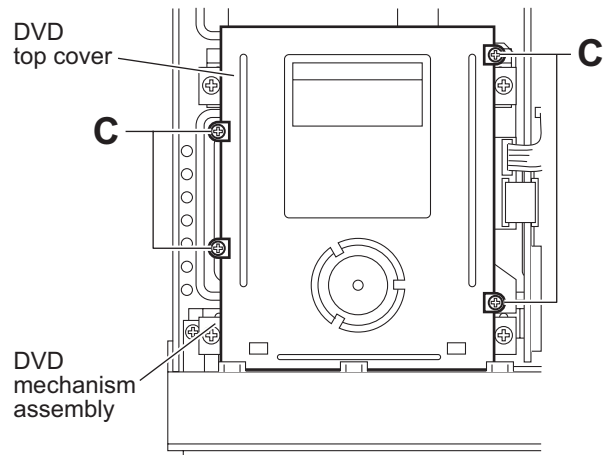

Fig.4
- (1) From the top side of the main body, remove the four screws **C** attaching the DVD top cover. (See Fig.4)